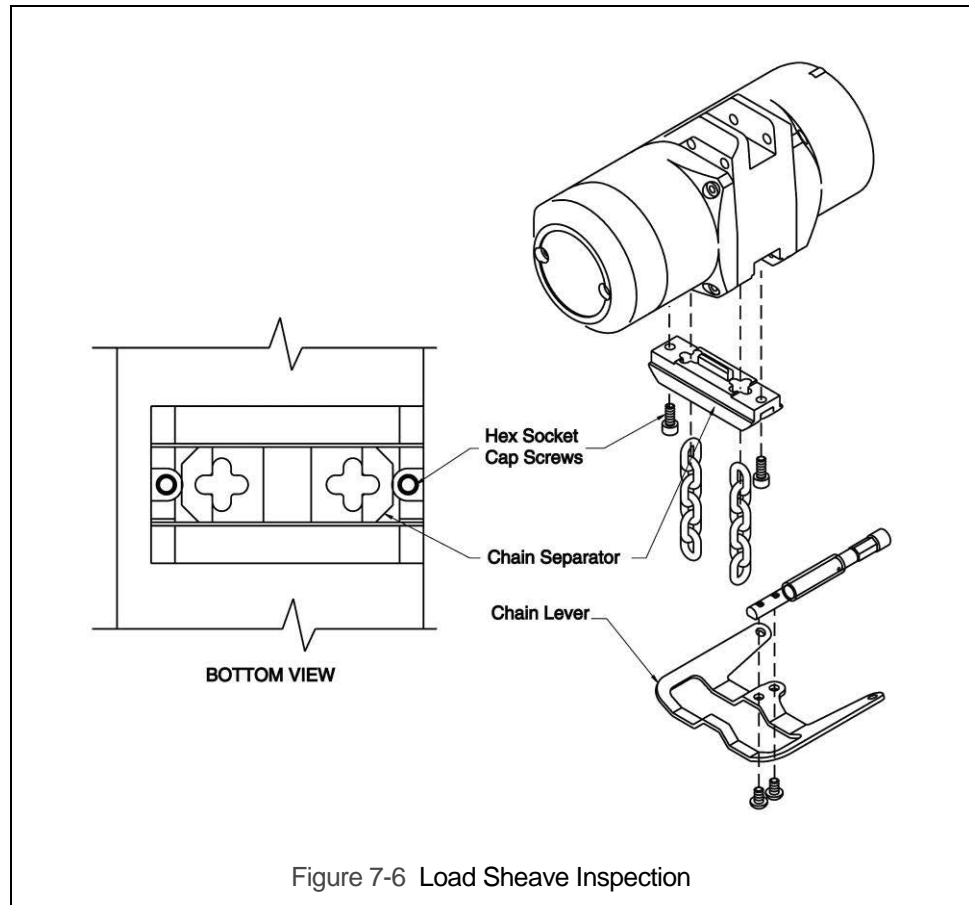

Figure 7-6 Load Sheave Inspection
7.4.1 Perform this inspection by removing the chain separator and viewing the load sheave while operating the hoist slowly, with no load, and in accordance with Section 4 "Operation". Refer to Figure 7-6 and remove the chain separator as follows: